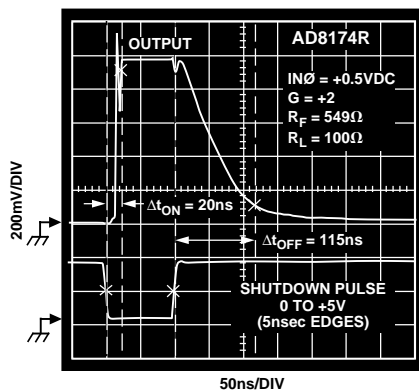

Figure 6. Shutdown Switching Characteristics
- ³AD8174 only. $\overline{\text{ENABLE}}$ pin is grounded. Shutdown (SD) pin is driven with 0 V to +5 V pulse (5 ns rise and fall times). State of A0 and A1 logic inputs determines which channel is activated (i.e., if A0 = Logic 1 and A1 = Logic 0, then IN1 input is selected). Set IN0 (or IN2) = +0.5 V dc, IN1 (or IN3) = -0.5 V dc, and measure transition time from 50% of SD pulse (+2.5 V) to 90% of the total output voltage change. In Figure 6, Δt_{OFF} is the shutdown assert time, Δt_{ON} is the shutdown release time.